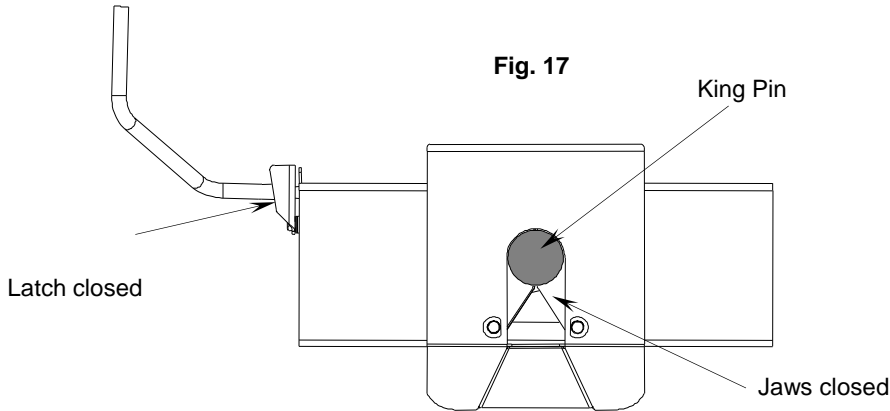

**Fig. 15
6. With all trailer wheels still firmly blocked, landing gear still resting on firm ground and supporting trailer weight, and truck stationary and in park with emergency brake on: visually check that bottom of pin box is resting on top of the hitch. **THERE SHOULD BE NO SPACE BETWEEN THESE SURFACES** (See Fig. 15). If space exists, (See Fig. 16) trailer has not been properly hitched. **DO NOT TOW!** Instead, repeat above steps until trailer is properly hitched. **DO NOT PLACE BODY UNDER TRAILER TO PERFORM THIS INSPECTION!**